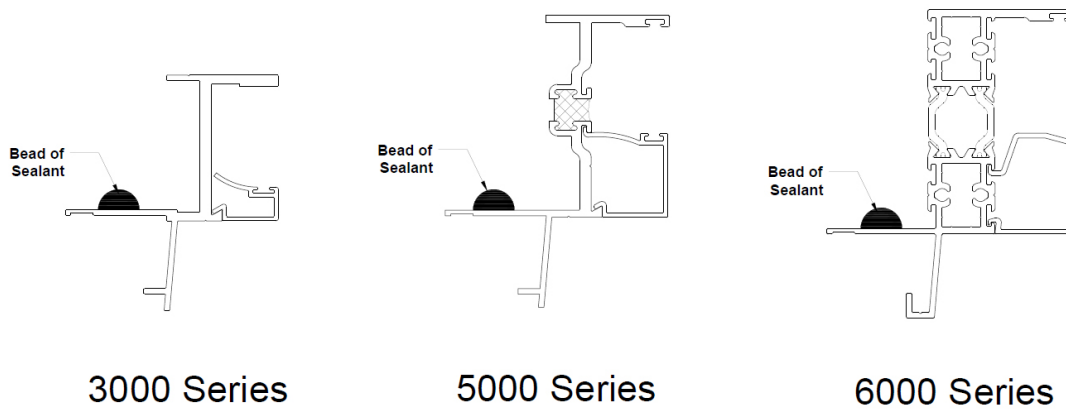
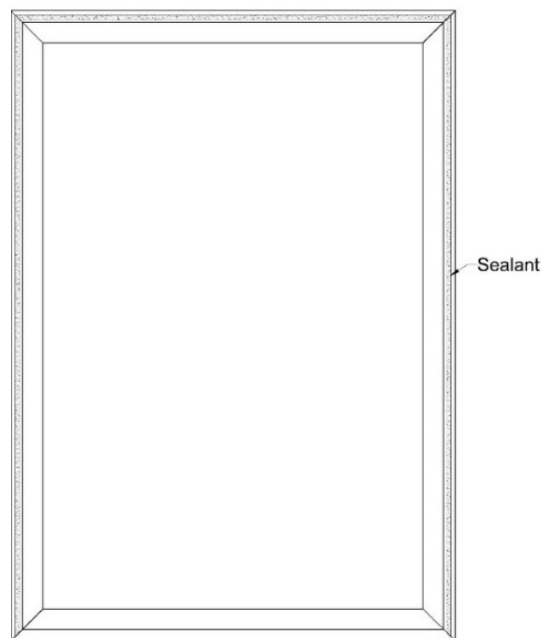

Figure 2a
Figure 2b
- Apply a continuous bead of sealant on the nail fin (interior side as shown in Figure 2a) around the perimeter of the head and jambs as shown in Figure 2b. (Sealant should conform to AAMA 802.3-16 and 803.3-16)